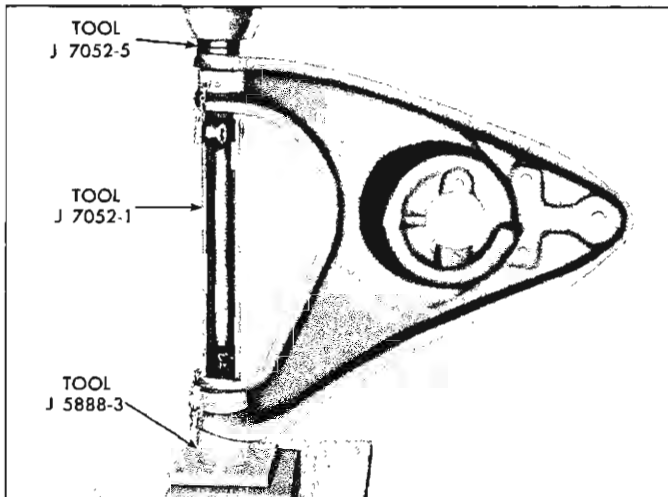

Fig. 22—Installing Lower Control Arm Cross Shaft Bushings
3. Press bushing into control arm until flange contacts control arm (fig. 22).